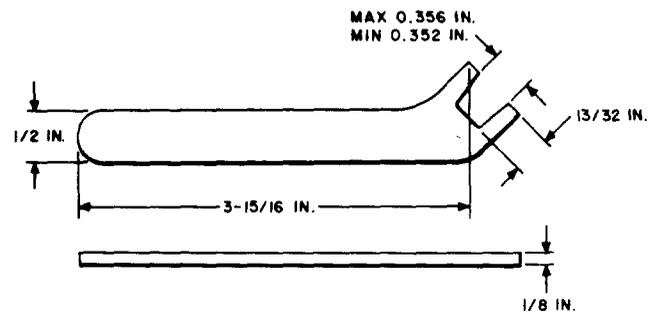

Fig. 8—536B Selecting Bar Holder Tool
2.10 **536B:** The 536B selecting bar holder tool (Fig. 8) consists of a metal tool used for holding selecting bars when adjusting selecting finger supports on 300, 304, 314, 324, and similar crossbar switches. The 536B tool replaces the 536A tool.